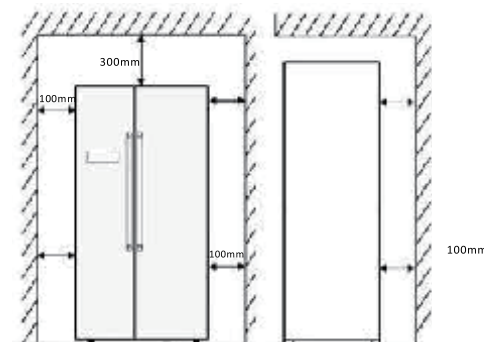

Fig.1
- Ensure sufficient spacing is provided for the appliance to be installed. Leave space on both sides (10cm), back (10cm) and above the appliance (30cm) to ensure proper ventilation and door opening. See fig. 1&2